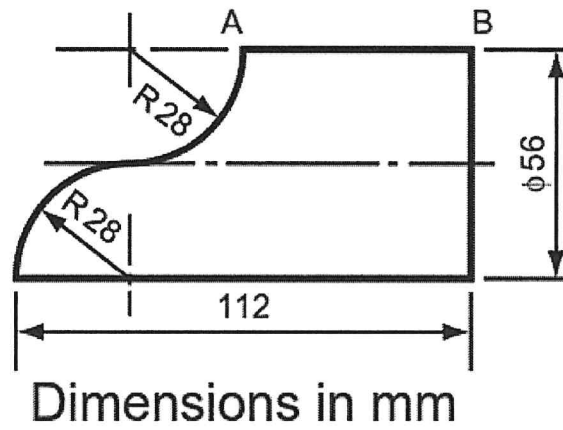

Figure 4
5. A small scoop is to be made to the dimensions given in the elevation, Figure 4. Draw the development of the shape of the metal required for the body of the scoop with the joint on AB. Ignore the thickness of the metal and do not allow for any overlap. **(10 marks)**